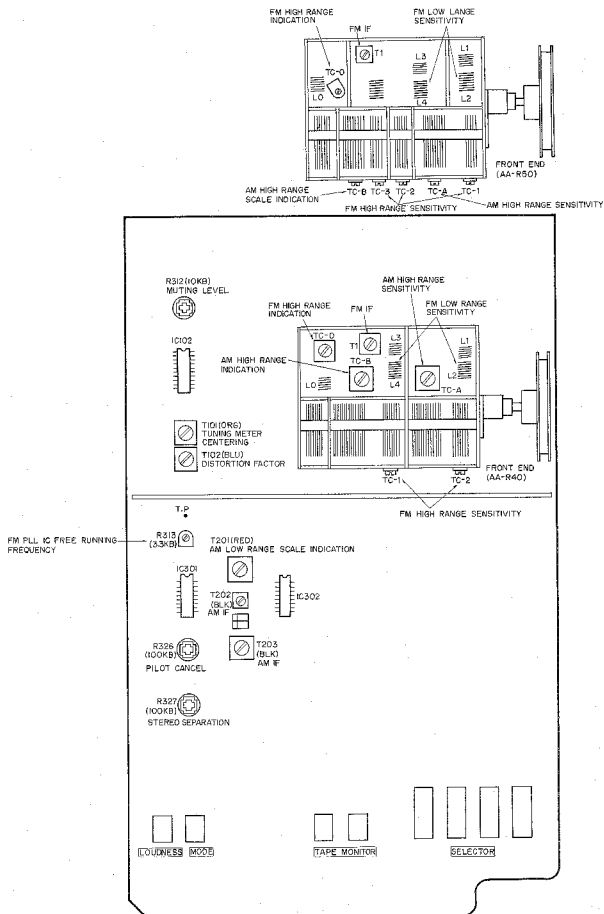

Fig. 12 Tuner P.C Board 4612740
1. FM ADJUSTMENT (Refer to Figs. 12, 13)
2. AM ADJUSTMENT (Refer to Figs. 12, 14, 15)